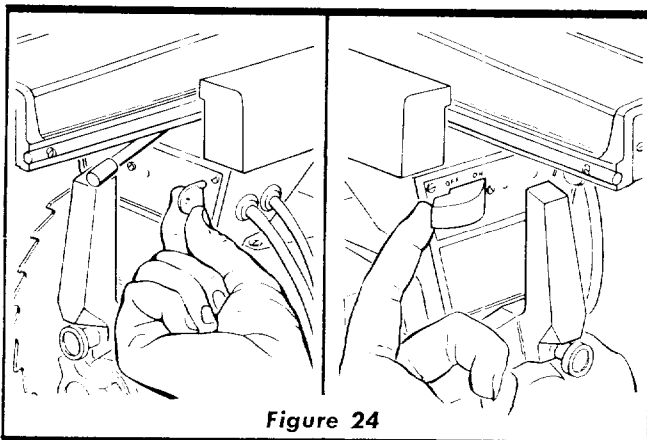

Figure 24
1. Insert the key into the slot and turn counterclockwise. (See figure 24.)
2. Hook end of forefinger under the left end of the ON-OFF switch lever and pull the lever out, to start the saw motor. (See figure 24.) To stop the saw, simply "bump" the switch lever with finger or thumb — pushing it inward.
5. Insert the safety lock key (figure 24) and pull the switch lever out to "ON" position.